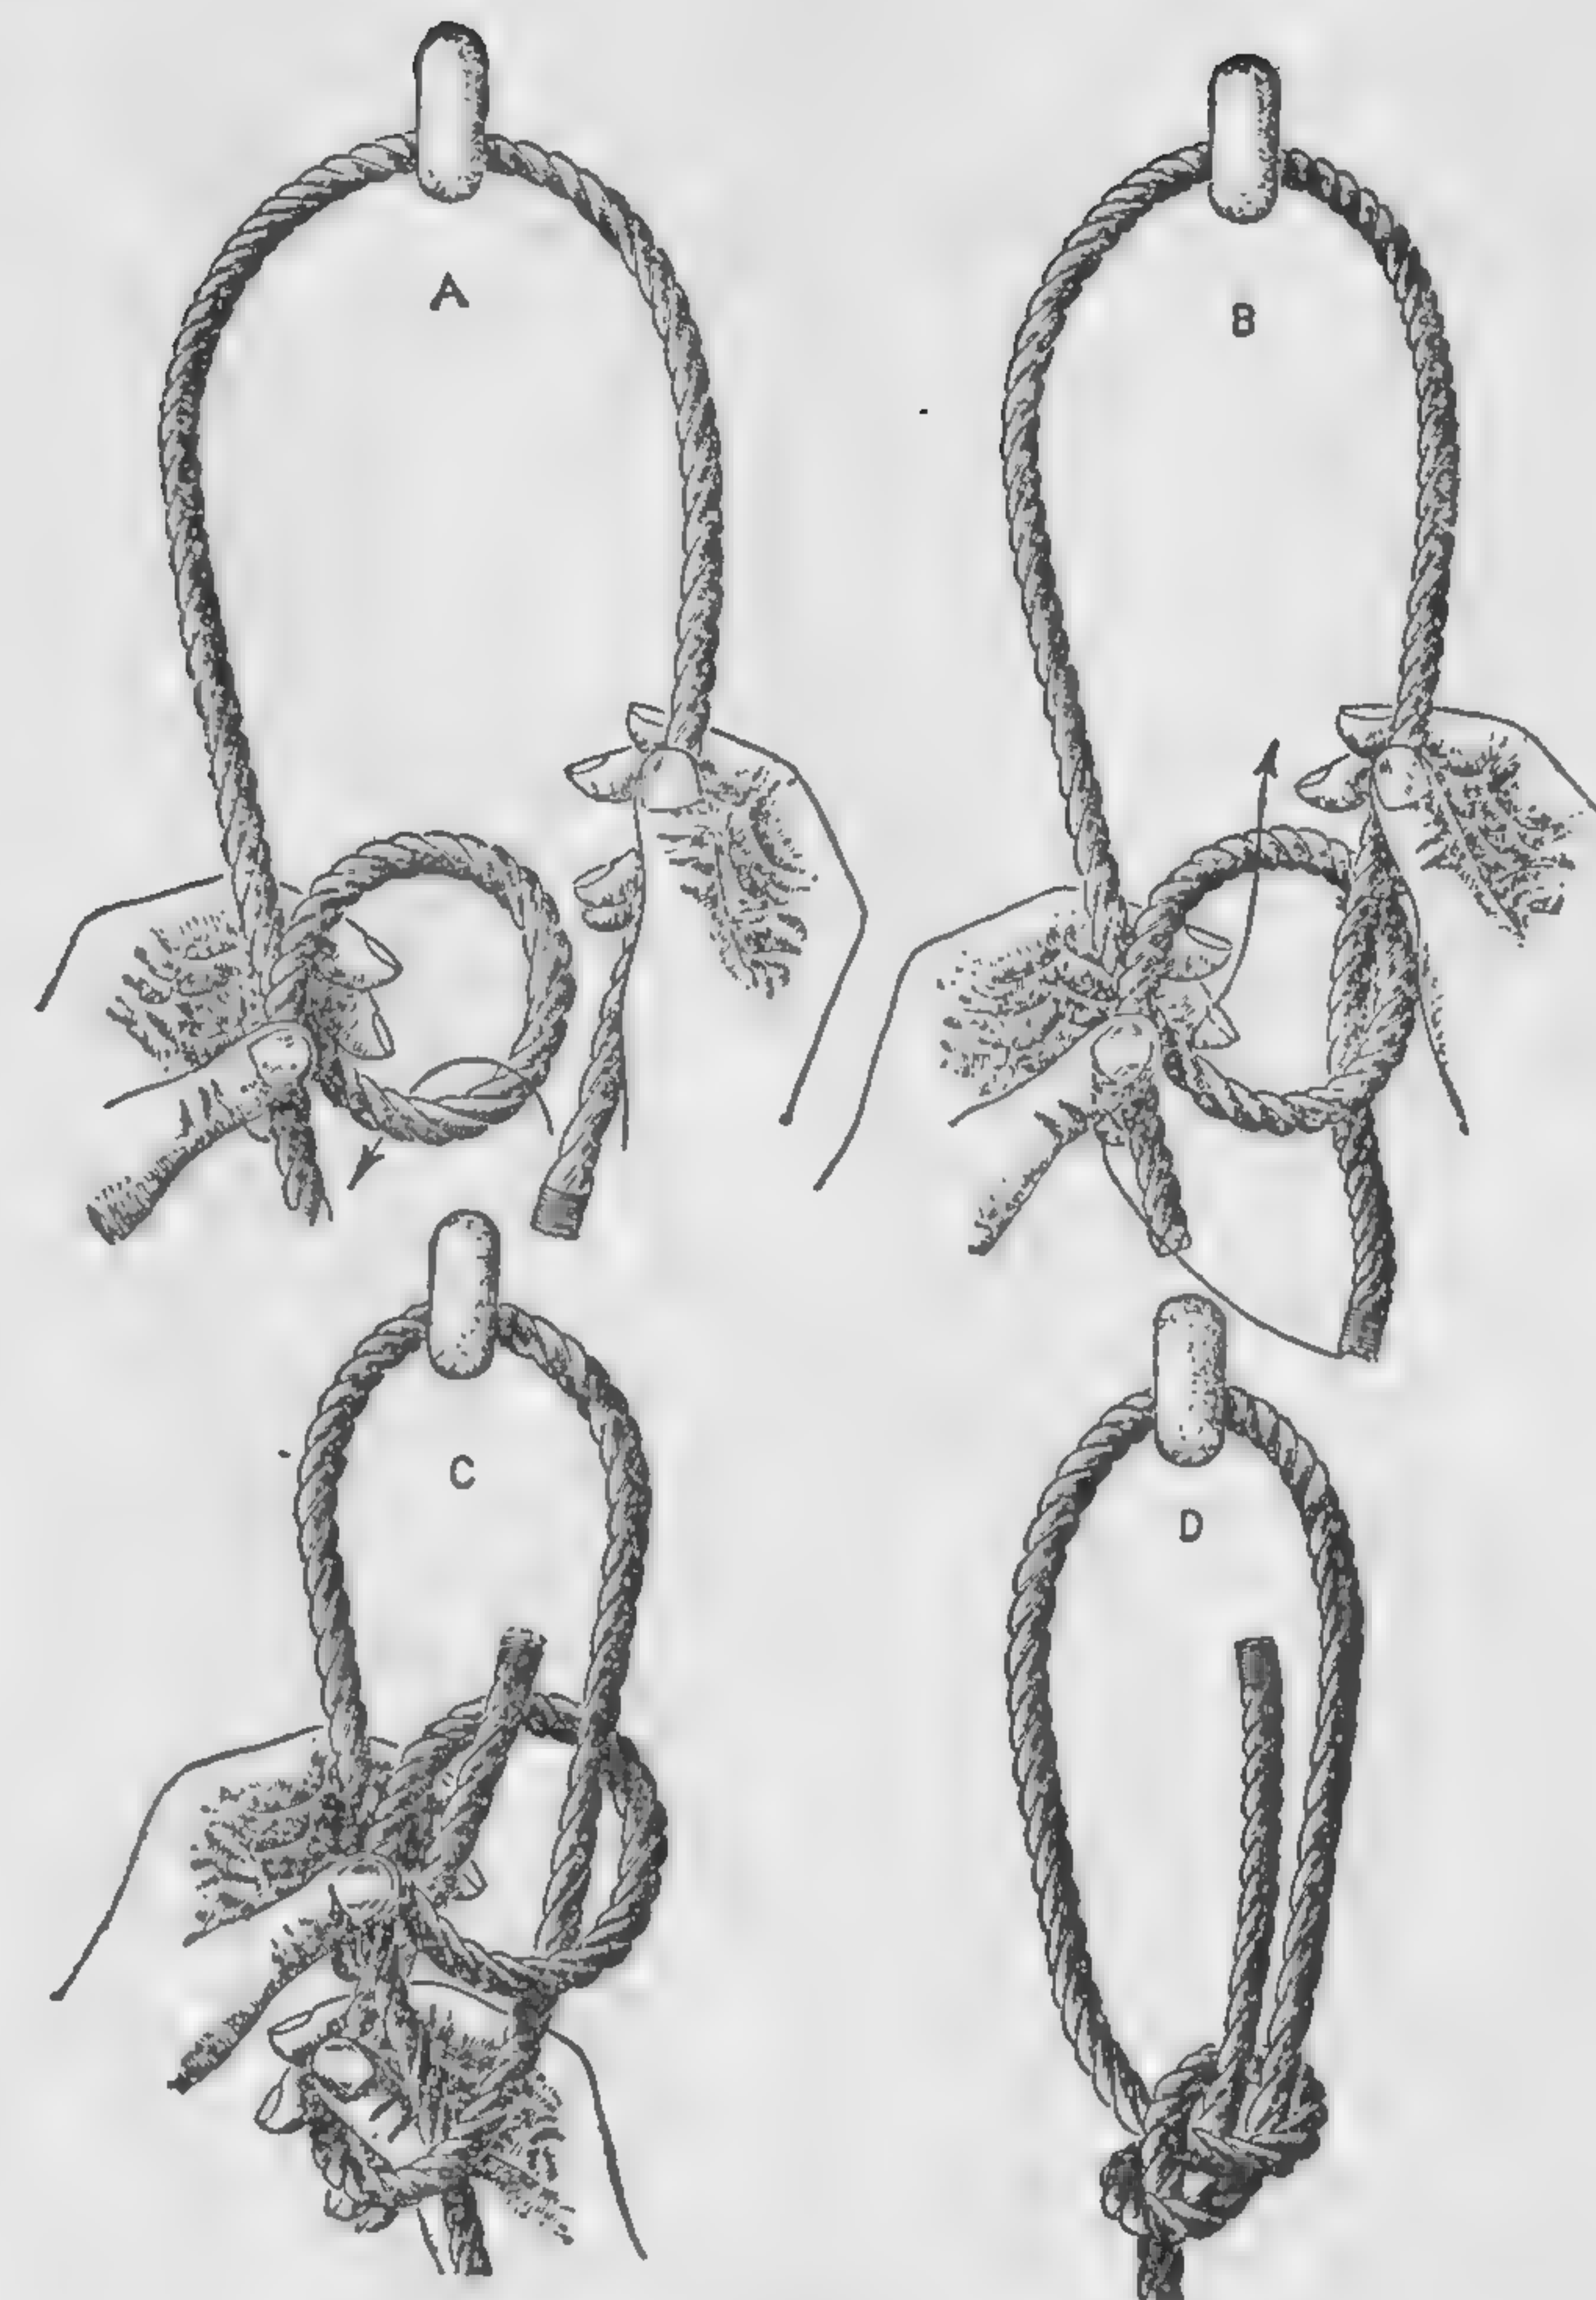

Fig. 10
Single Bowline, at End of Rope, Attached to Object. This knot is for tying a bowline through a ring or eye. See Fig. 10.
4. Draw all parts down tight. The completed knot is shown at *D* in Fig. 10.